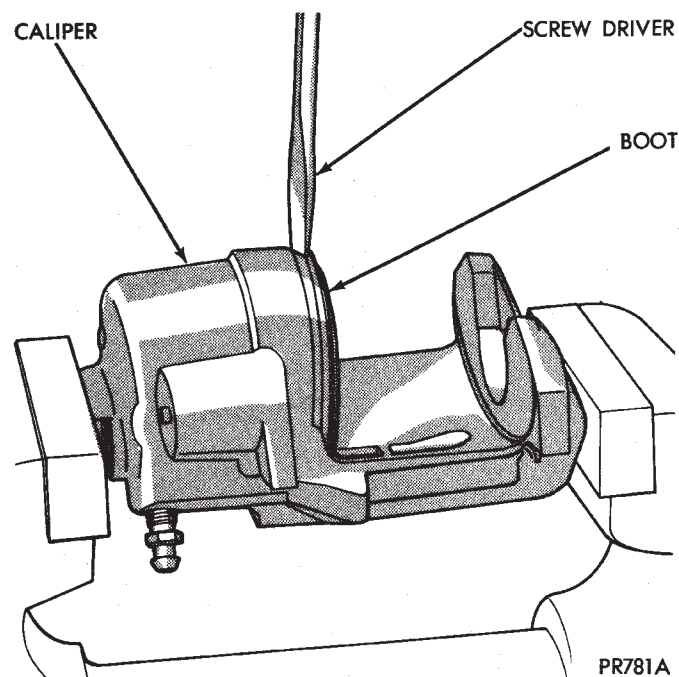

Fig. 171 Removing Caliper/Piston Dust Boot
(5) To disassemble caliper, mount in a vise equipped with protective jaws.
(6) Remove guide pin sleeves and guide pin bushings. See Removing Guide Pin Bushings in the caliper disassembly section of this manual.
(7) Remove the piston dust boot from the caliper and discard (Fig. 171).